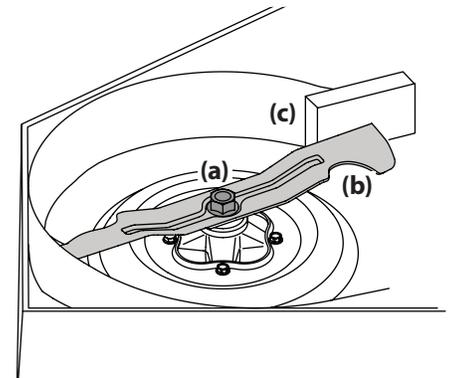

Figure 4-20
- Use a 15/16" wrench to hold the hex nut on top of the spindle assembly when loosening the hex nut (a) securing the blade (b). A block of wood (c) may be placed between the deck housing and the cutting edge of the blade (b) to help in breaking loose the hex nut (a) securing the blade. See Figure 4-20.